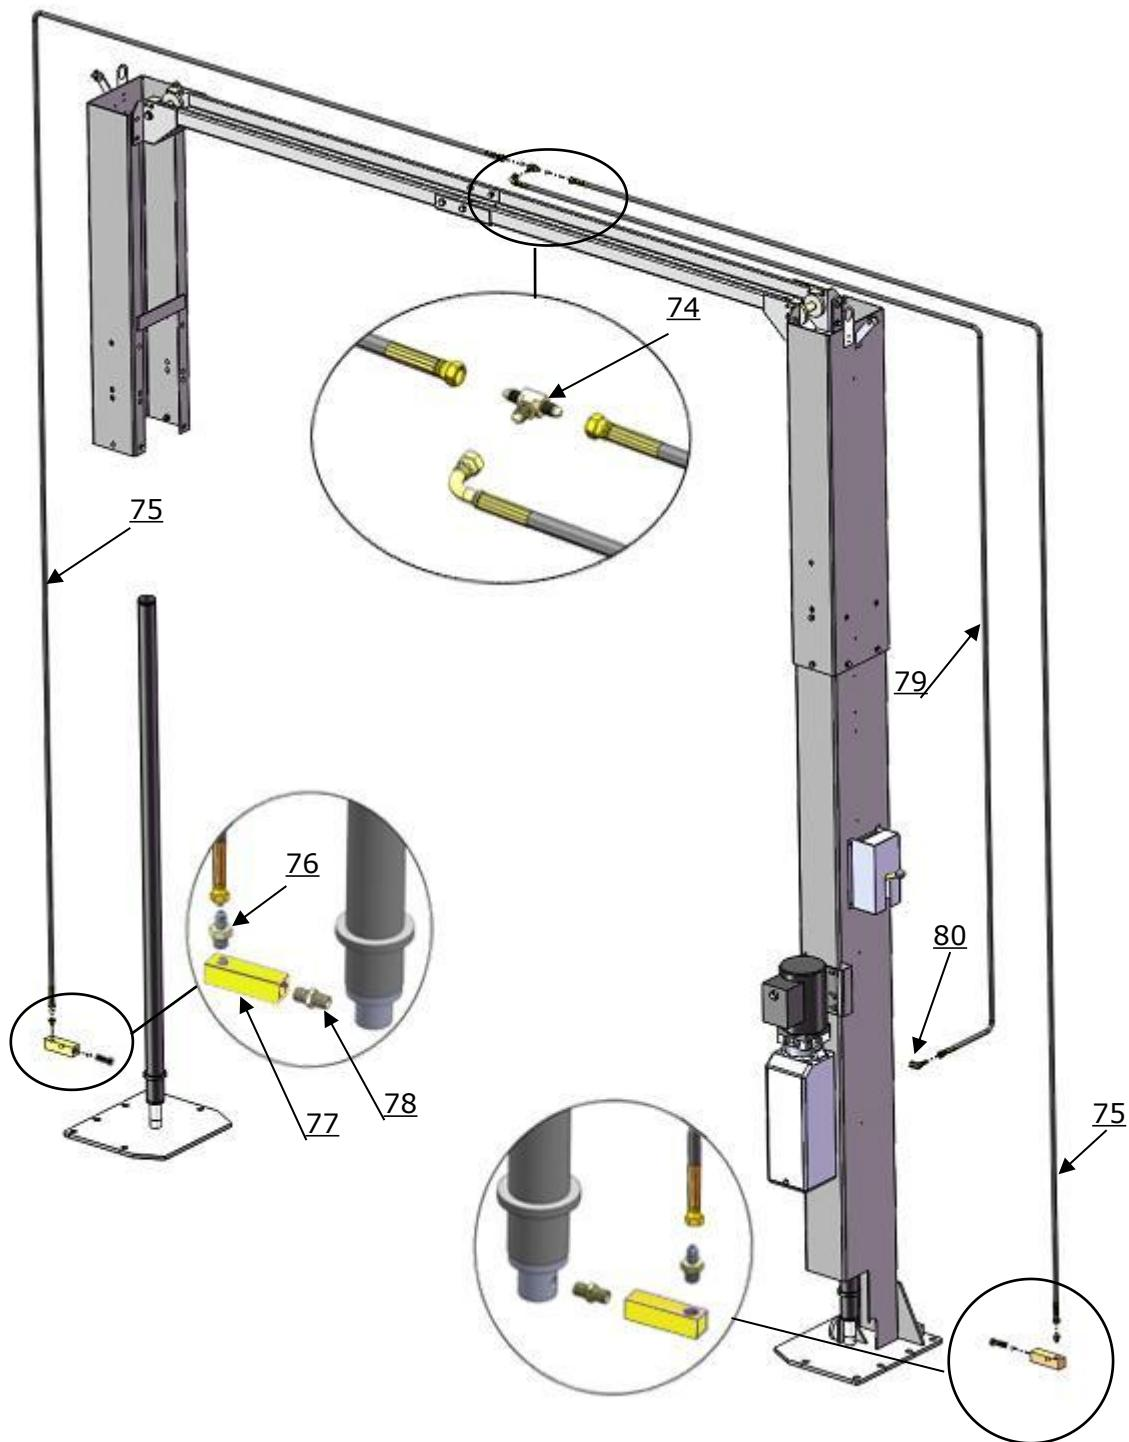

Fig.28
1. Connect 3 oil hoses as shown. (See Fig.28)